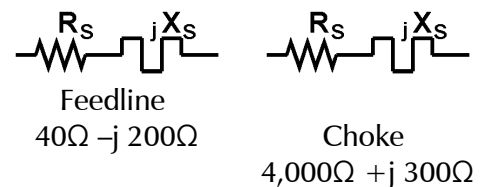

Fig 3
**Why the Emphasis on  $R_S$ ?** Because  $X_S$  of the choke can be inductive or capacitive, and because the common mode circuit will be inductive at some frequencies and capacitive at others,  $X_S$  of the choke can cancel part or all of the  $X_S$  of the common mode circuit. This cancellation causes common mode current to increase, which is the opposite of the desired result. But  $R_S$  of the choke always adds to the common mode impedance, so a high value of  $R_S$  always reduces common mode current. Fig 3 shows a choke added to a feedline that looks capacitive at some frequency of interest. In this example, the capacitive and inductive reactances partially cancel, adding to  $4,040\Omega + j 100\Omega$ .  $R_S$  and  $X_S$  values for both choke and feedline will be different at